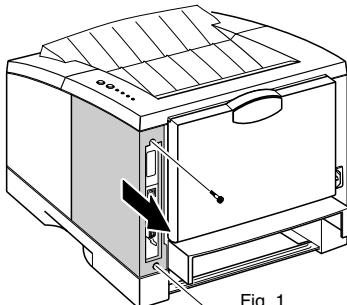

Fig. 1
3. Remove two screws securing the System Controller Board Cover and remove the cover (Fig 1).